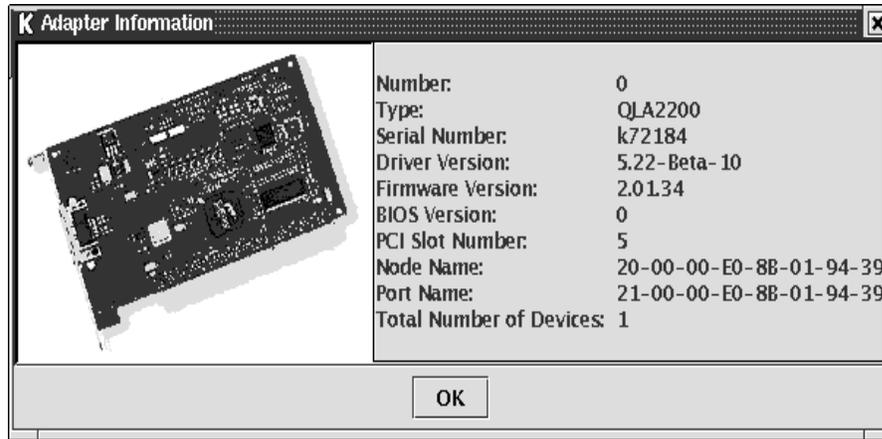

Figure 46. Adapter Information window
1. Right-click the Adapter n column heading to display information about a specific adapter. The Adapter Information window is displayed (see Figure 46 on page 53).